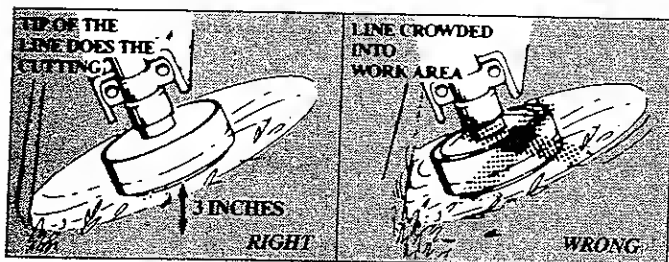

Figure 11
- The tip of the line does the cutting. Allow the line to trim at its own pace. You will achieve better results by not crowding the line into the cutting area. The right and wrong way are shown in Figure 11.